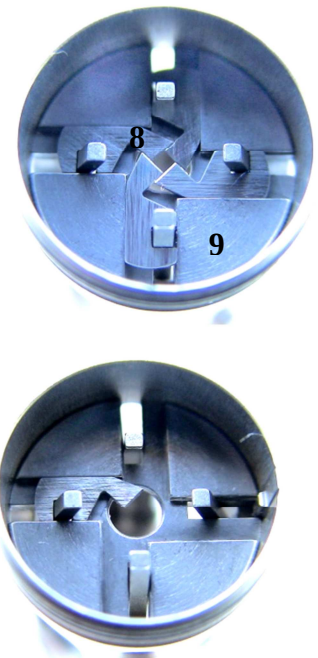

Fig 13.Insert blades
- Remove each stripping blade (8) individually from the guide plate (9).
- If necessary, carefully clean the guide plate (9) with a dry brush
- Insert new stripping blades (8) individually. As far as possible, align the stripping blades with the track so that the blades do not subsequently jam. (Fig. 13)